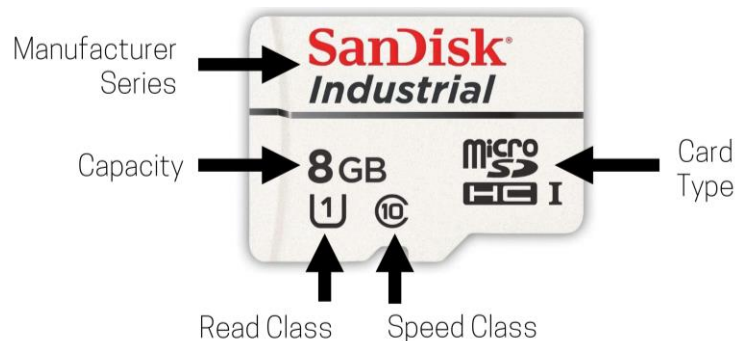

Figure 6. SanDisk Industrial microSD, 8GB SDHC UHS-I Class 10, compatible with and included with the UPAS.
The UPAS is shipped with the microSD card shown in **Figure 6**. We strongly recommend using only this model of microSD card with the UPAS. If a different model of microSD card is used, the UPAS log file could fail to write. To purchase additional UPAS-compatible microSD cards, contact AST, use the search term “SanDisk Industrial microSD, 8GB SDHC UHS-I Class 10” to find the card shown in **Figure 6**, or find another card with the specifications detailed in **Table 2**.
- 1 Verify the microSD card is clean, in good condition, and compatible with the UPAS. Specifications for compatible microSD cards are provided in **Figure 6** and **Table 2**.